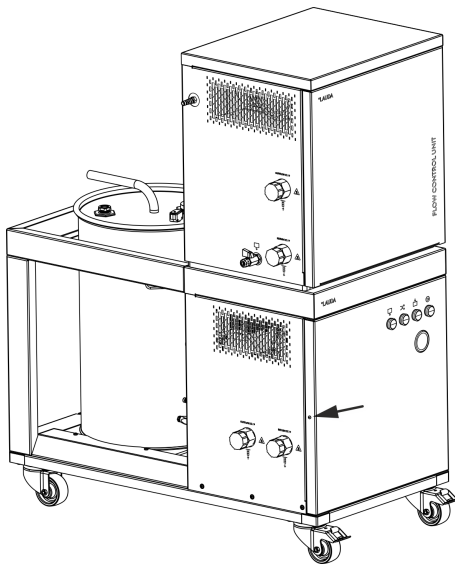

Fig. 4: Opening the door
6. Unscrew the Torx screw on the door of the Filling and draining unit (arrow, Fig. 4). Pull the door on the left side out of its locking device. Carefully swing the door open to the right.